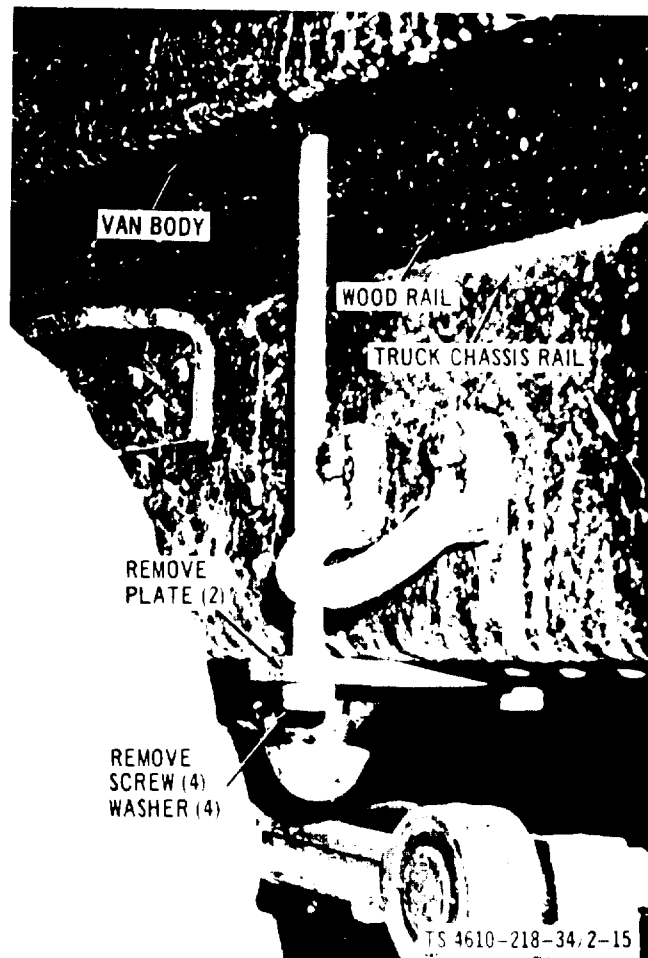

Figure 2-15. Van Body Mounting, Rear, Removal and Installation
(3) Refer to figures 2-15, 2-16 and 2-17 and remove the van body off the truck chassis.